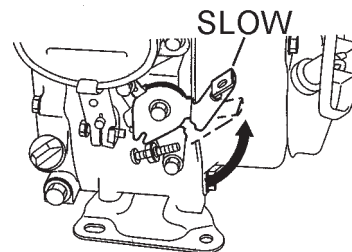

Figure 14. Throttle Lever (Slow)
4. Place the **throttle lever** (Figure 14) in the **slow** position (idle)